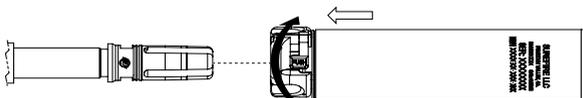

FIGURE 4
2. Rotate the lock ring, following the black arrow in Figure 4, to the unlocked position.
3. Slide the suppressor over the adapter following the white arrow in Figure 4. Rotate counterclockwise until the indexing slot on the suppressor (Figure 5B) lines up with and seats onto the indexing tab on the adapter (Figure 5A). **Ensure that the suppressor is fully seated onto the adapter.**